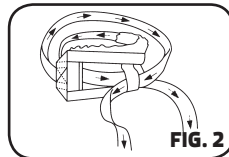

FIG. 2
2. Thread the strap from the wide end of the cuff through the loop in the opposite direction (fig. 2). For faster application, the restraint can be attached to the bed before placing on the patient's wrist.